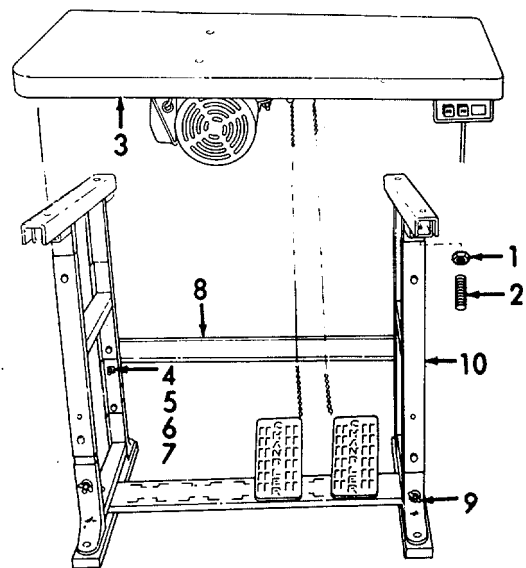

Figure 2-62. Button Sewing Machine Table, Disassembly.
- (11) Refer to Figure 2-62. Loosen nuts (1) and then loosen studs (2) from table top (3).
- (12) Lift off table top (3) and place upside down on table with folding legs.
- (13) Remove light assembly from table top and fix to motor using the strap.
- (14) Remove two wingnuts (4), two lockwashers (5), two flatwashers (6), two bolts (7), and crossbrace (8).
- (15) Loosen wingnuts (9).
- (16) Pull the ends up and out of the bottom of the stand.
- (17) Fold the ends of the folding stand (10).